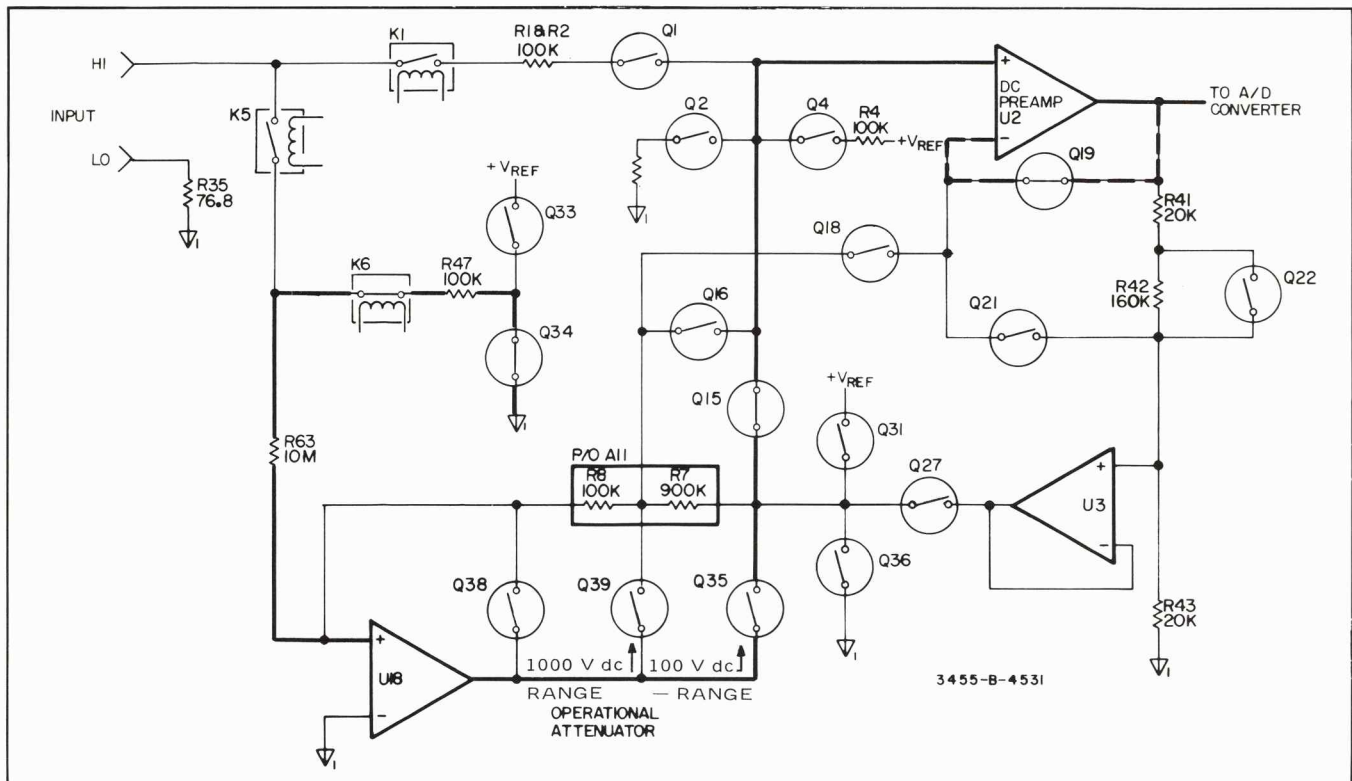

Figure 8-9. 100 Vdc and 1000 Vdc Input Offset Error Measurement.
**8-26. 100 V dc and 1000 V dc Input Offset Error Measurement.** On the 100 V dc and 1000 V dc ranges the input of the operational attenuator is grounded through a 100 kilohm resistor by relay A10K6 and FET switch A10Q34 (see Figure 8-9). On the 100 V dc range, the feedback of the operational attenuator is selected by FET switch A10Q35 (attenuation of 10-to-1). The output of the operational attenuator is applied to the input of the DC Preamp